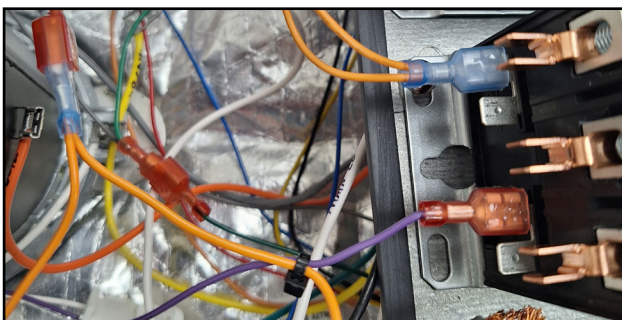

Fig.111
23. Connect the purple female wire ziptied to the orange wires on the harness to the left side coil on the main(middle) relay. (Fig.111)